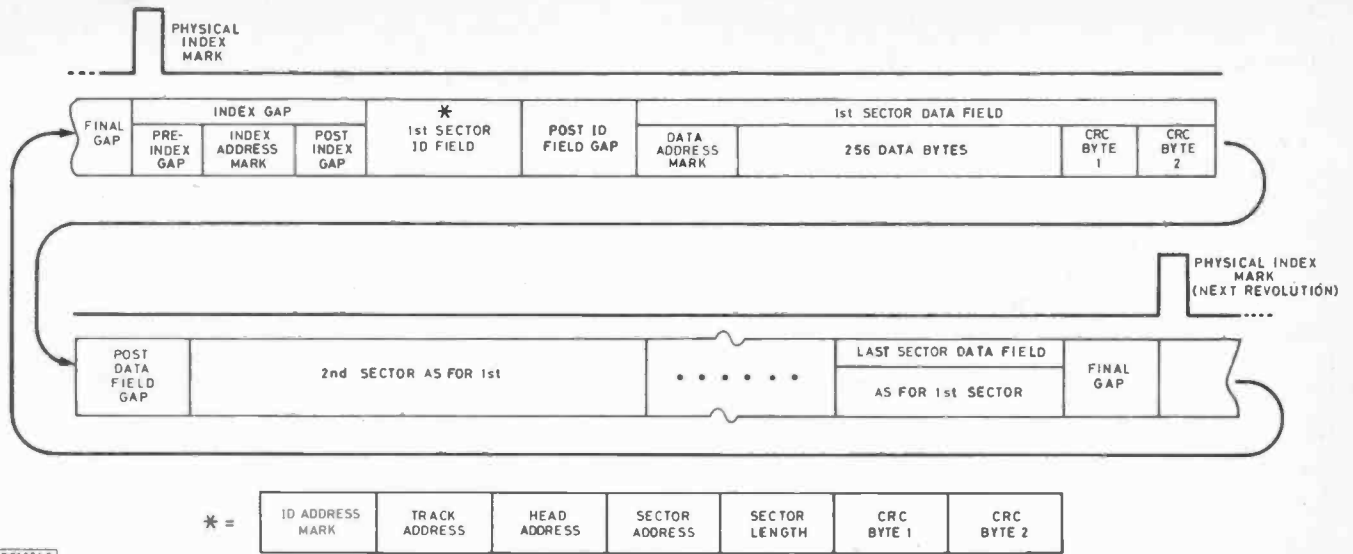

Fig. 5. Detailed organisation of part of a disc track
Before a floppy disc can be used for the first time, it must be formatted using a special program known as a formatter. During formatting, the concentric magnetic tracks are laid down, and the sectors are marked out and numbered. The tracks are numbered from outermost (0) to innermost (39 or 79), and the sectors on each track are numbered from 0 to 9. This and other information is actually written onto the disc by the formatter. The detailed layout of part of a standard mini-floppy track is illustrated in Fig. 5; the reader hopefully need never be concerned with the structure in this much detail!